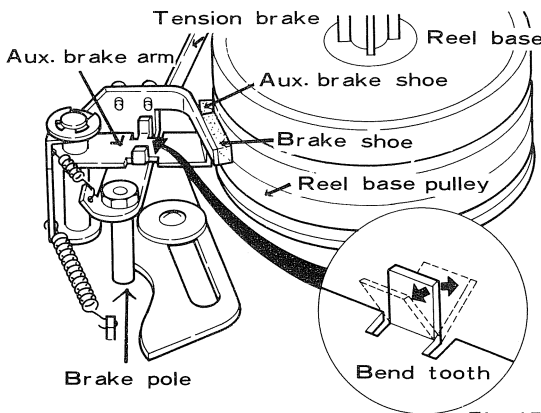

Fig. 15
2. If brakes require re-adjustment, bend brake pole, auxiliary brake arm tooth and tension brake accordingly. See Fig. 15.